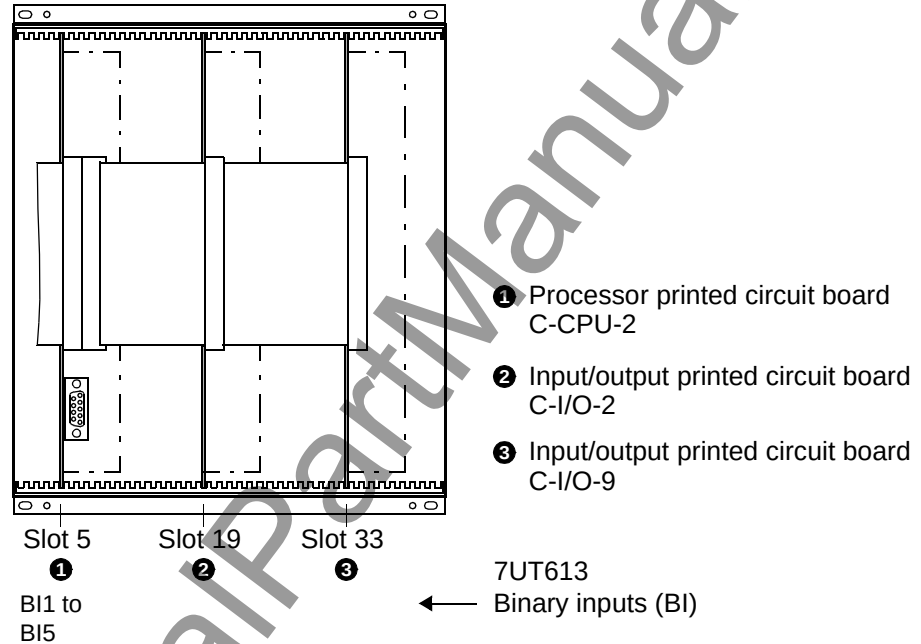

Figure 3-8 Front view of 7UT613 (housing size $1\frac{1}{2}$) after removal of the front cover (simplified and scaled down)
The physical arrangement of the boards is shown in Figure 3-8 for housing size $1\frac{1}{2}$ and 3-9 for housing size $1\frac{1}{1}$.
at 7UT613 board ② in Figure 3-8, slot 19,